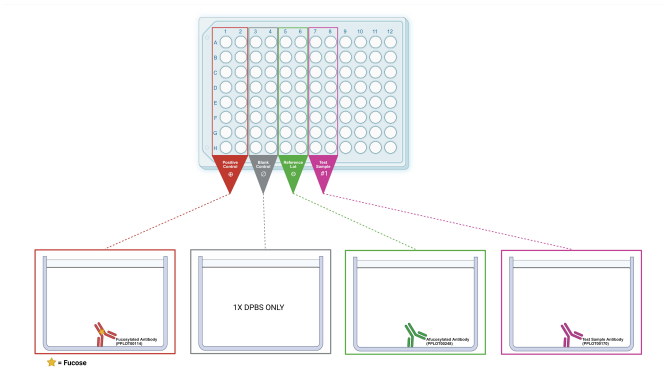

Figure 2: Fucose Detection Assay Coating Schematic
5.1 Using a multichannel pipette, dispense $100\ \mu\text{L}$ of antibody solution at 1 mg $1.25\ \mu\text{g}/\text{mL}$ into each corresponding well (each well gets $0.125\ \mu\text{g}$ of antibody). Utilize **Figure 2** as a guide.
5.2 Make sure to add $100\ \mu\text{L}$ of 1X DPBS into each Blank well (refer to **Figure 2**).